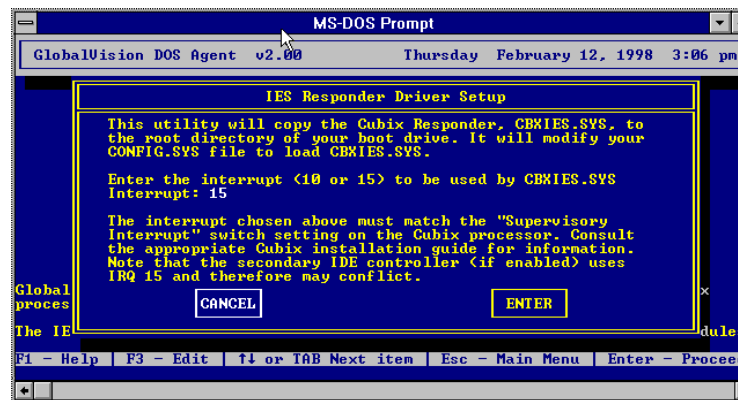

Figure 57 – IES Responder Driver Setup, Interrupt
5. The **IES RESPONDER DRIVER SETUP (INTERRUPT)** screen will appear. Enter the correct interrupt value into the **INTERRUPT** text box. IES Responder must use interrupt (IRQ) 10 or 15 to operate properly. The interrupt value selected in this dialog box must match the interrupt value physically set on the computer board. Please refer to the appropriate documentation for determining the interrupt value of a computer board. Enter the interrupt value in the **IES RESPONDER DRIVER SETUP (INTERRUPT)** screen. Click **ENTER** to continue. See Figure 57.